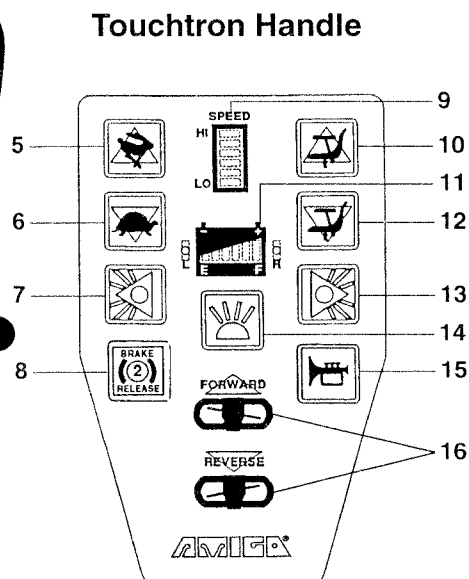
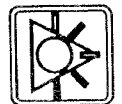

Figure 7
Figure 14
The Touchtron controls include: HI/LO speed settings (rabbit/turtle buttons), key lock, power seat lift (up/down), headlight, directional lights, horn, electromagnetic brake release and a battery status gauge (See Figure 7).
Regulate your maximum speed with the rabbit and turtle buttons (Figure 7, Nos. 5 and 6). To increase your top speed, press the rabbit button. To lower the top speed, press the turtle button. Each segment in the speed gauge corresponds with approximately 15 to 20 percent of the maximum speed. Every time a button is activated on the touchpad, you will hear a "chirp." The speed setting has approximately 200 possible increments, so you may have to press the turtle or rabbit button several times to see a change on the speed gauge (Figure 7, No. 9). Continuous "chirping" sounds indicate highest and lowest speed settings.
The horn button can be used to avoid confrontation with pedestrians or other mobile entities (Figure 7, No. 15).
Models with Touchtron controls have an additional electronic brake release button located on the handle (Figure 12). To electronically release the electromagnetic brake, push the Brake Release (2) button twice. The low-speed segment of the speed gauge will blink to indicate you are now in the freewheeling mode. To terminate the freewheeling mode when selected electronically, activate any control button on the Touchtron handle (Figure 7).
The lighting package includes a front headlight mounted on the handle and rear red and yellow turning indicator lights. The red operational lights and the front light can be activated by pressing the headlight button (Figure 7, No. 14 also Figure 14). Press this switch again to turn the lights off.
The rear yellow turning indicator lights can be activated by pressing the left or right turn signal buttons. Indicate a “hazard” condition by pressing both turn signals. The power must be ON to operate the lights (Figure 7, Nos. 7 and 13 also Figure 14).